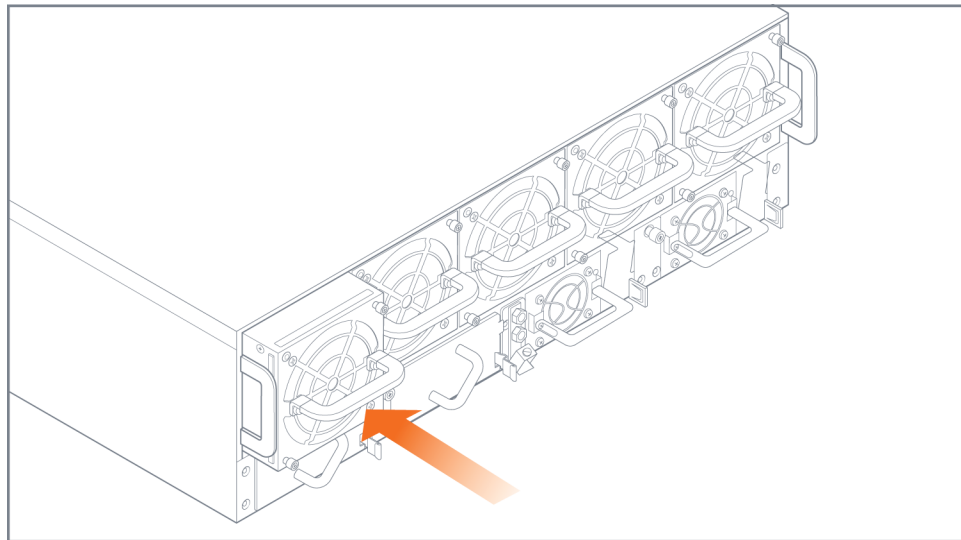

Figure 4-9: Fan Module Insertion
1. Place the working fan module into the empty fan module slot and slide it in until it is flush with the chassis rear and will not slide in any further. Refer to Figure 4-9 on page 80.